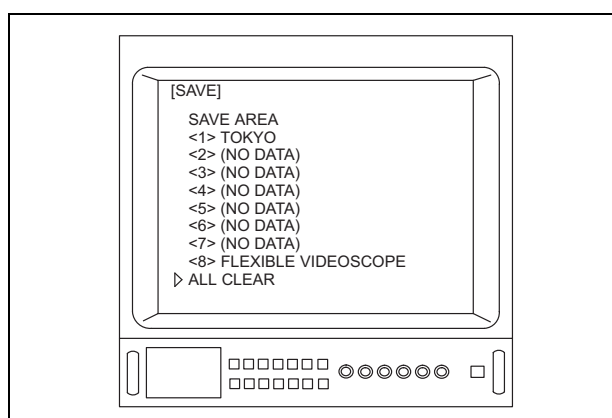

Figure 5.77
6. Depress the menu switches “” or “”, or the “///” key on the keyboard to move the arrow “” to “ALL CLEAR” (see Figure 5.77).
- Depending upon the OTV-S7V's settings, the menus shown in Figures 5.77, 5.78 and/or 5.79 may appear different from those displayed on the video monitor.